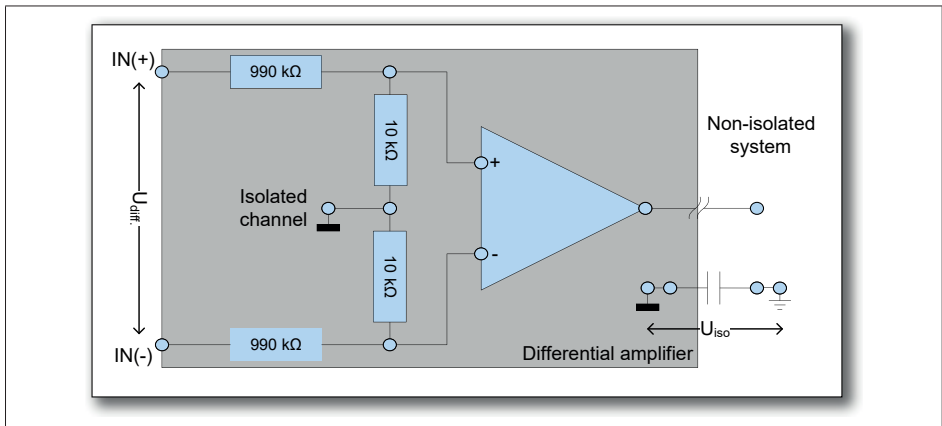
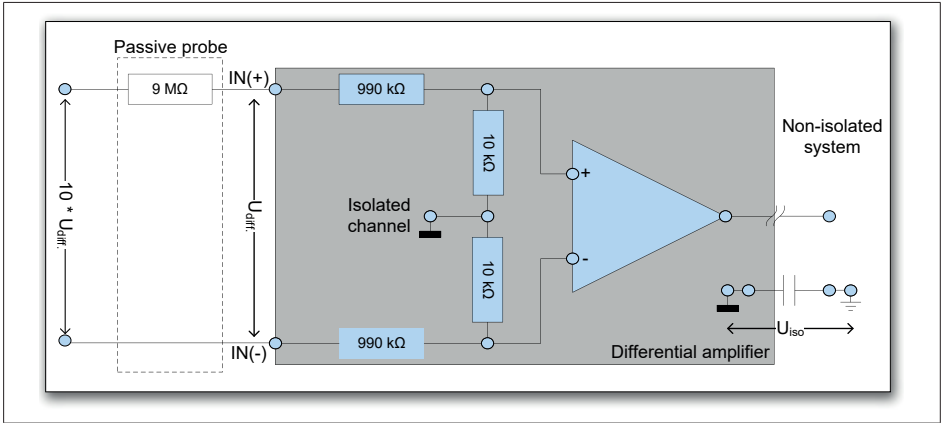

Fig. 13.37 Isolated balanced input channel
Fig. 13.38 Isolated balanced input channel with passive probe
- The isolated ground is not externally accessible, as shown in Fig. 13.37.
Looking at Fig. 13.37, the GN610B/GN611B specifies  $U_{IN(+)}$ ,  $U_{IN(-)}$  and  $|U_{iso}| \leq 1 \text{ kV}$ . Using a standard passive 10:1 probe, combined with the GN610B/GN611B results in the situation shown in Fig. 13.38.